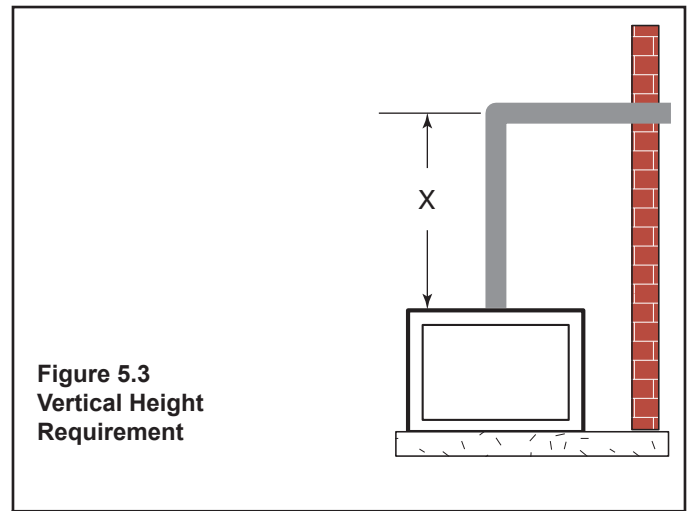

Figure 5.3 Vertical Height Requirement
Place fireplace into position. Measure the vertical height (X) required from the base of the flue collars to the center of the wall opening. See Figure 5.3.